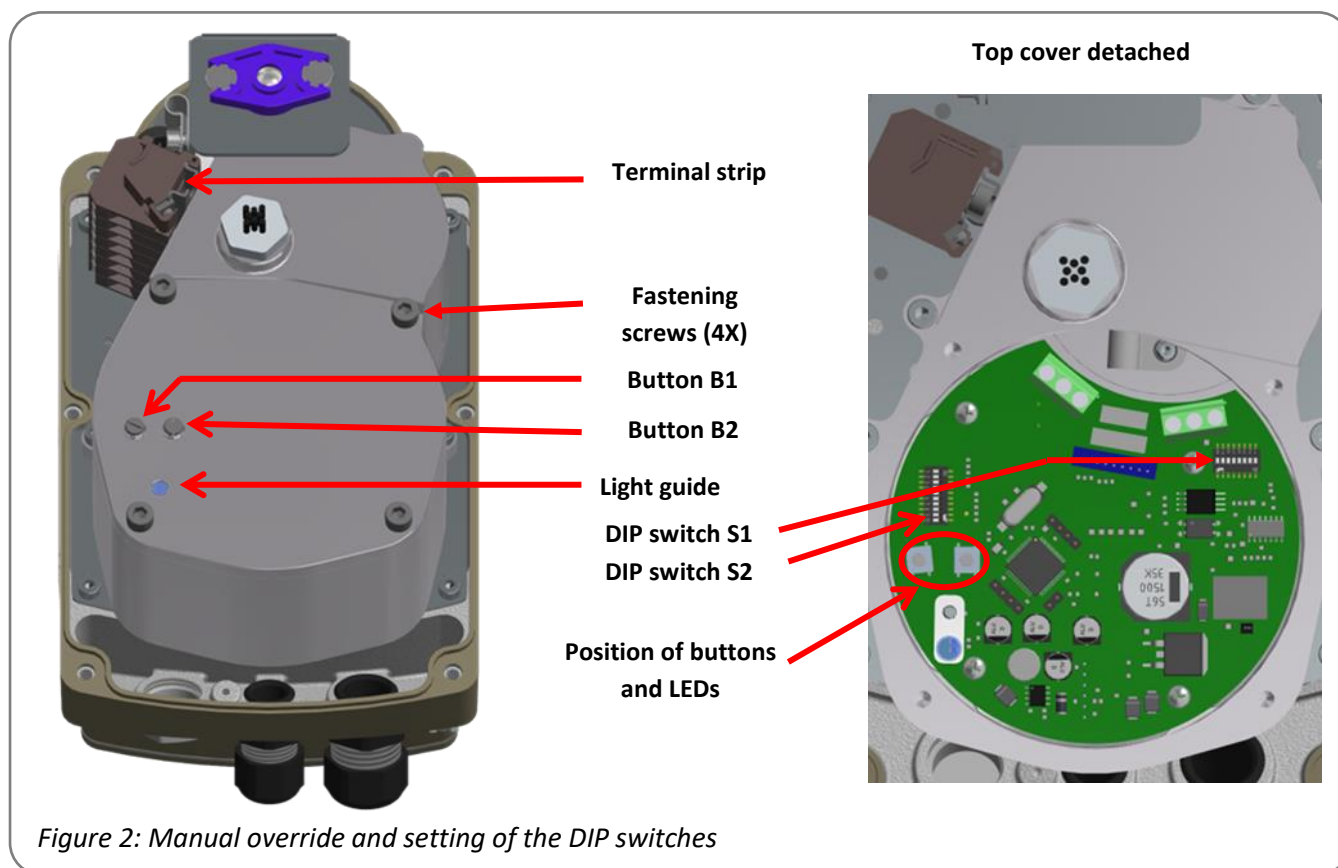

Figure 2: Manual override and setting of the DIP switches
- The mounting position is arbitrary with the exception of “cover downwards” (Figure 2).